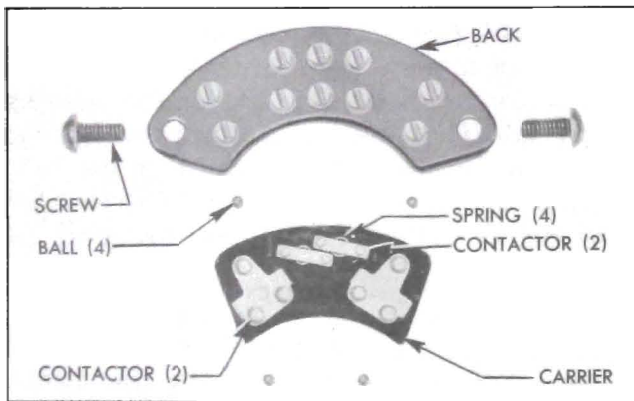

Figure 10-72—Signal Switch Parts
5. Lay switch housing flat on bench, remove switch attaching screws, switch back with wiring harness, carrier with contactors, and the four small steel balls. See figure 10-72.
6. When switch parts are being installed, use a small amount of petroleum jelly to hold a steel ball in each of the four bearing grooves in carrier and place carrier in switch housing. Install springs and contactors in carrier as shown in figure 10-72, then install switch back with two screws.